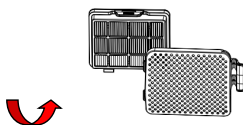

Fig.15
- 2) As in fig.15, get out the outlet filter.